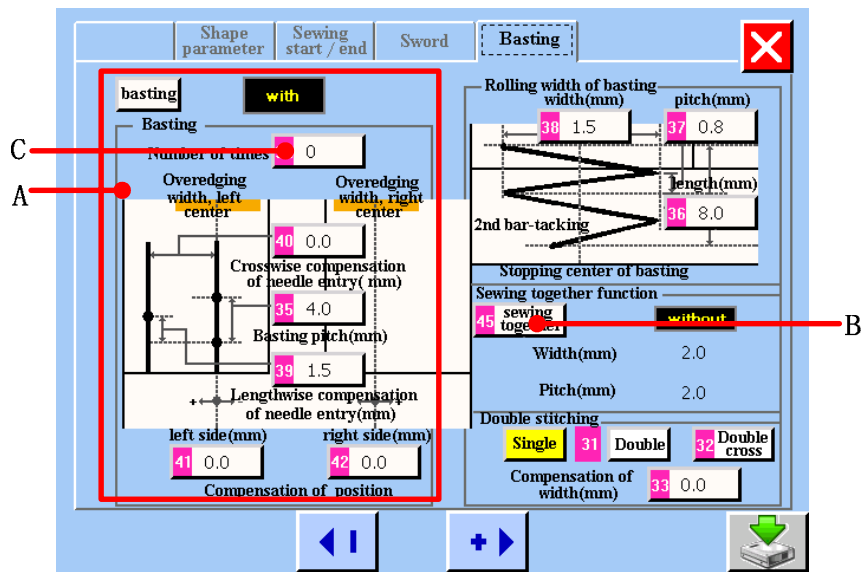
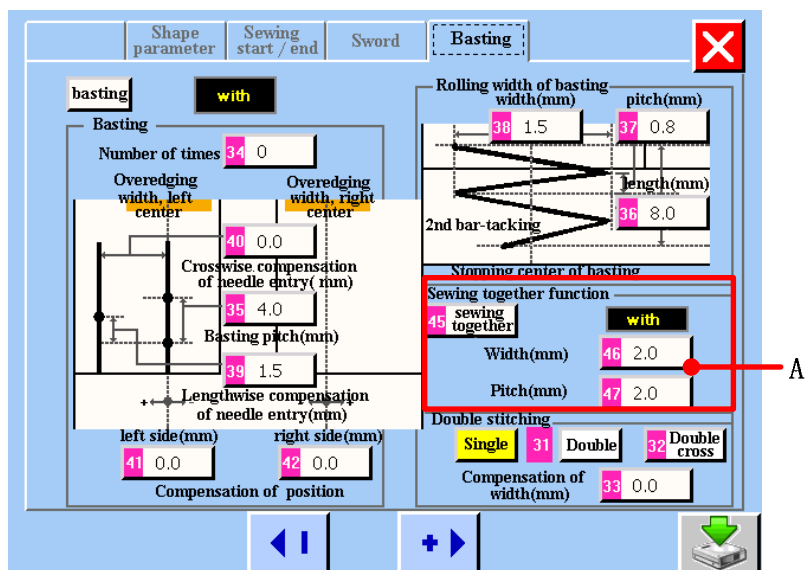

figure 4.7
figure 4.8
When you press  button , the basting will switch “with” to “without”. When the basting is shown as  , the <basting>screen is as figure 4.6 shown. When the basting is shown as  , the <basting>screen is as figure 4.7 shown.
- B Sewing together button . When the basting is shown as **with**, the sewing together button is effect, See figure4.7. When the basting is shown as **without**, the sewing together button is no effect. See figure4.8.